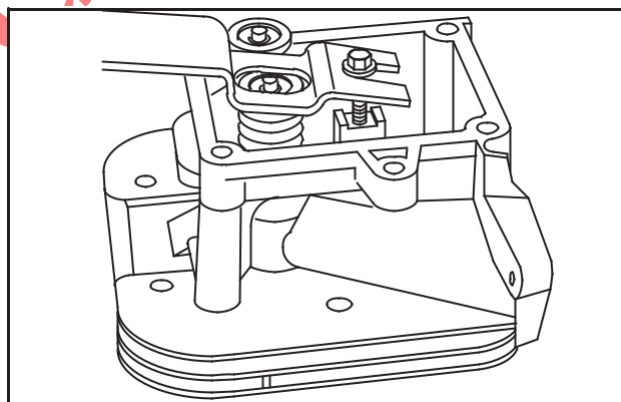

Fig. 20 - Install Valve Springs
3. Install valve springs with valve spring compressor, Tool #19347, Fig. 20.